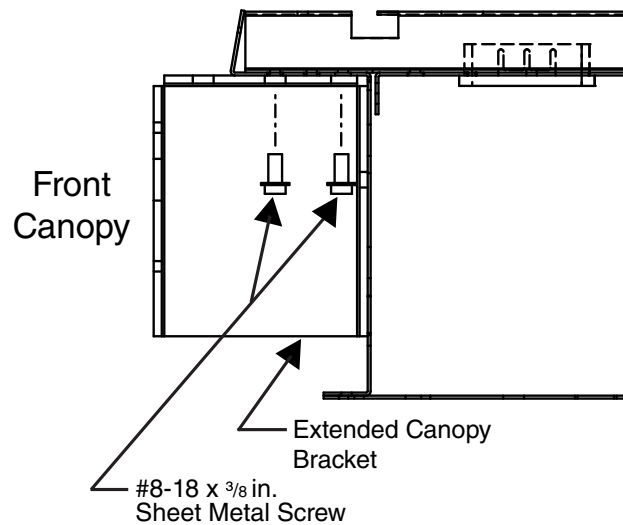

Figure 7-2
B. Use the screw that were just removed to install canopy extension bracket as shown in Fig. 7-2 and 7-3.